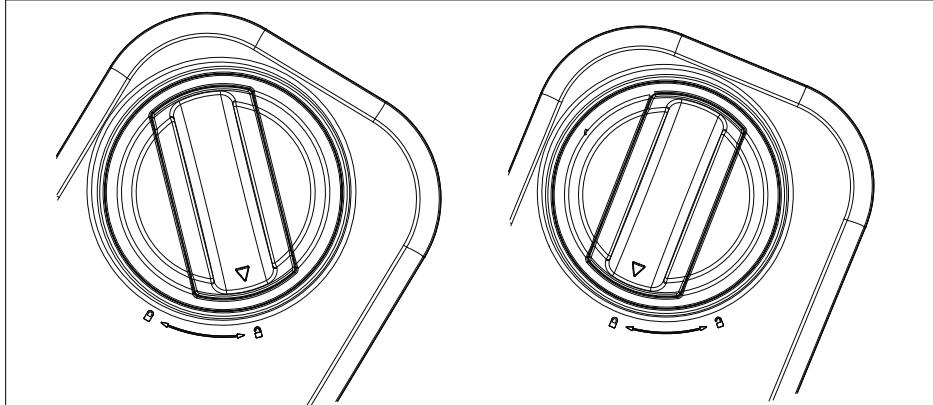

Fig. 8
- Turn the lid towards the closed lock symbol until it engages (see Fig. 8).